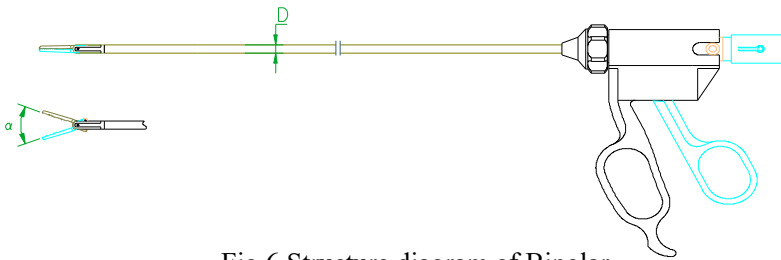

Fig.6 Structure diagram of Bipolar
F. The outline structure and basic dimensions of Bipolar are shown in Fig.6 and Table 6.